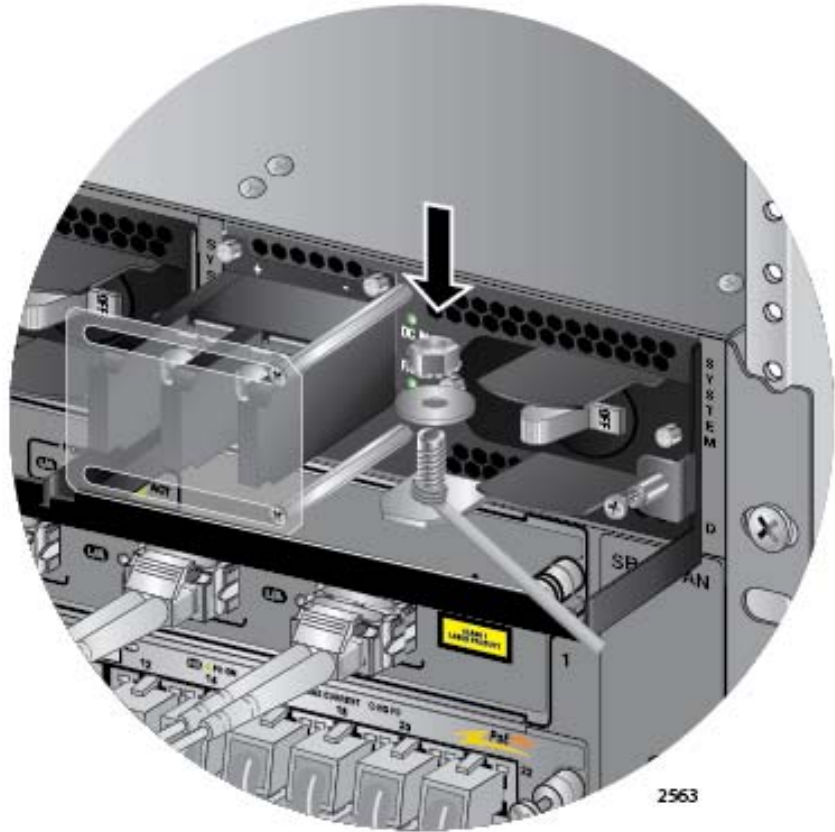

Figure 122. Securing the Bare Grounding Wire to the Grounding Post
4. Secure the wire with the nut and washer removed in step 2, and an 8 mm wrench, as shown in Figure 122.